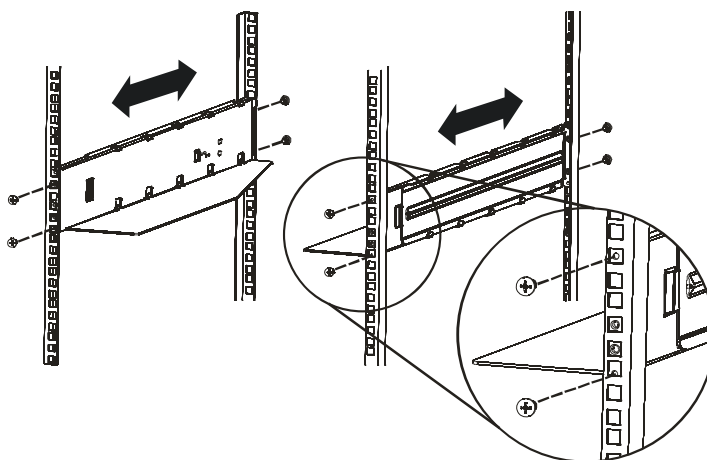

Figure 14 Installing the rails into the rack
- 4.** Using the appropriate M6 screws for your rack type, and a #3 Phillips screwdriver, secure one rail to each side of the rack in your chosen rack location. Secure both the front and back of each rail to the rack. The rails extend to fit a variety of rack depths. The correct orientation of the left and right rails is shown in Figure 14.